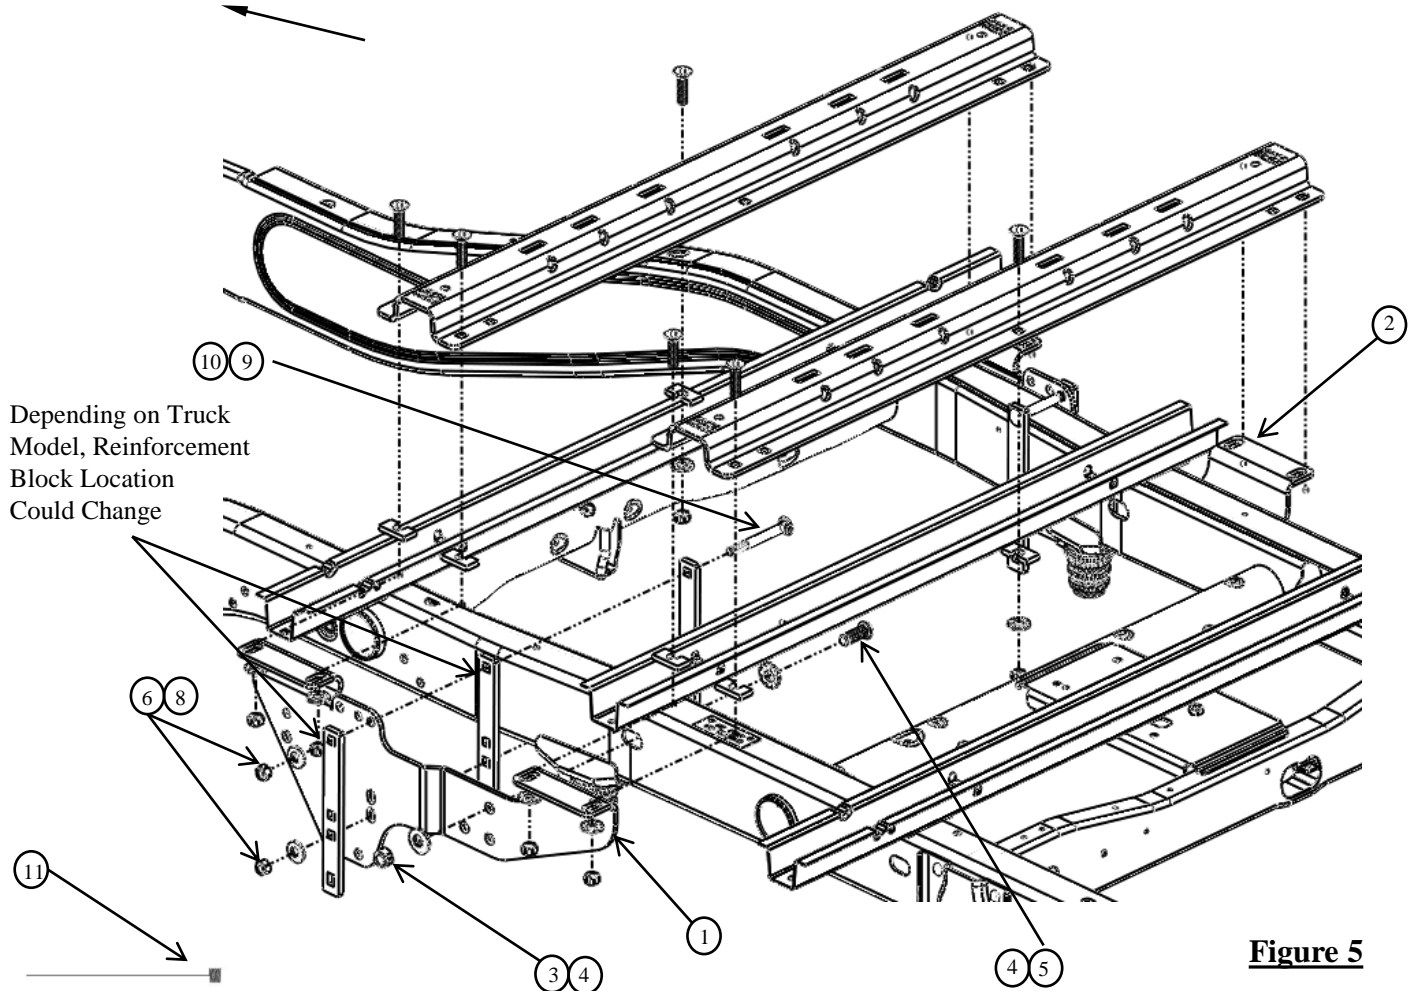

Figure 5
When installing to Figure 5 & 6, during drilling protect the fuel tank and filler tubes, brake lines and wire harness by placing a piece of metal between the box floor and potential components at risk on the driver's side. This will prevent drilling into these items.
6. Fasten the frame brackets to the vehicle frame rails as shown in Figure 5. Using the pull wire (11) thread the button head cap screw (6) and the conical washer (4) through the rearward slot, on the interior of the truck frame. Place the mounting bracket (1), conical washer (4), and the 5/8" nut(3) on and hand tighten.
7. Passing the 1/2" carriage bolts (9) through the top and middle slots in the reinforcement block (10) will create a clamping strap that will go inside the frame rail and connect to the mounting bracket (1). There are two different holes in the mounting bracket that allow for the best clamping surface to the truck frame. Changing the mounting bracket hole will allow the clamping strap to adjust to different height truck frames. Once the strap bolts have been passed through the best mounting hole thread the reinforcement block (10), 1/2" conical washer (8), and the 1/2" nut (7) on to the bolts and hand tighten.